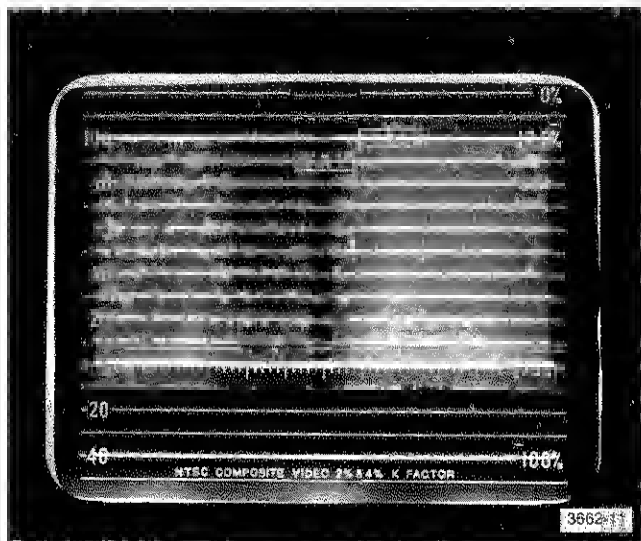

Fig. 2-9. Display of a 10-step modulated staircase signal with the RESPONSE switch set to FLAT and the SWEEP switch set to 2 V.
17. Set the SWEEP switch to 2V. A two-field display similar to the one shown in Fig. 2-9 should be obtained.